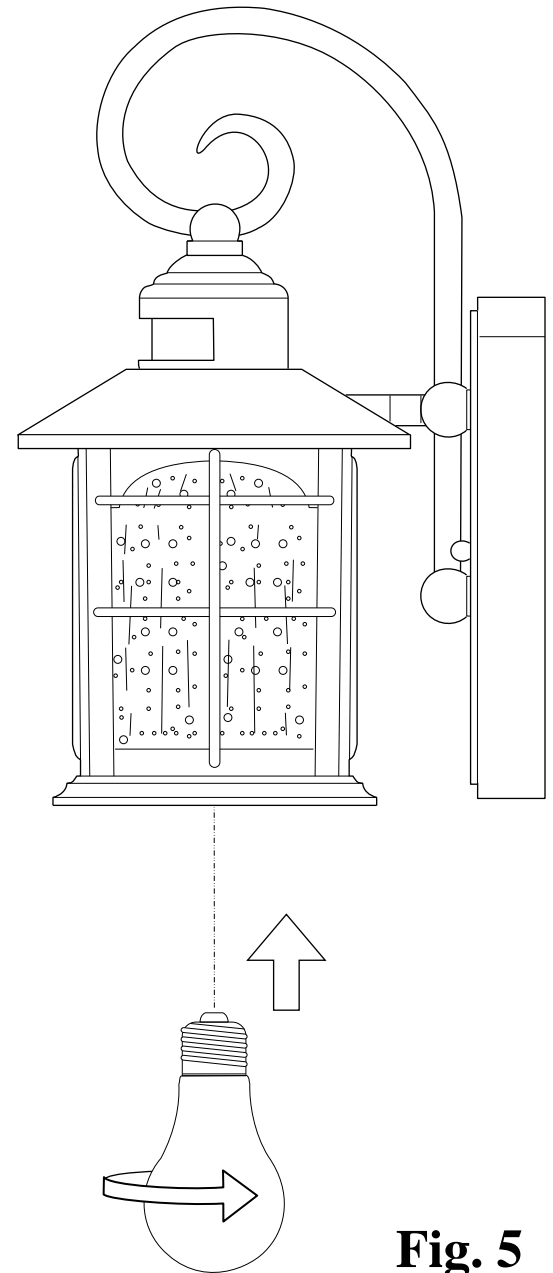

Fig. 5
7. Install up to a 100 watt incandescent Light Bulb in the socket of the Main Fixture Body. Do not exceed a 100 watt incandescent light bulb or 26 watt SBCFL (**Fig. 5**).